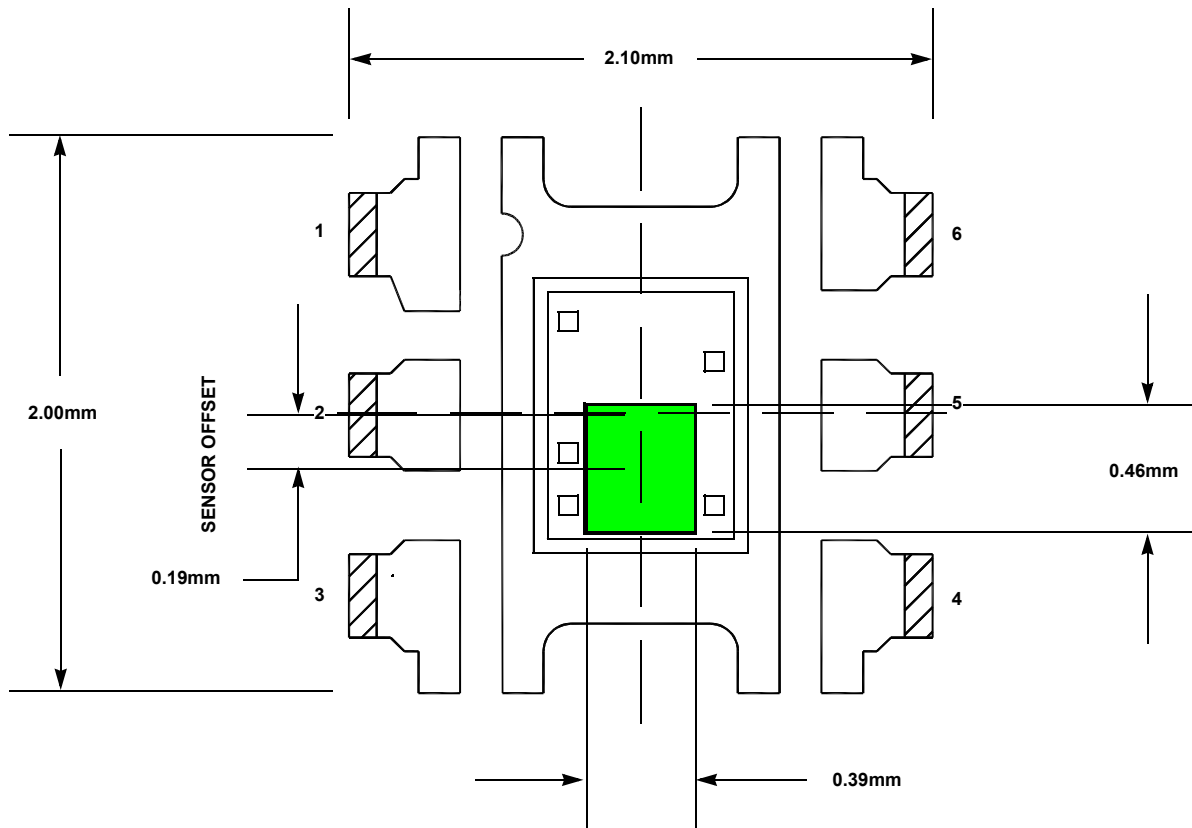

FIGURE 20. 6 LD ODFN SENSOR LOCATION OUTLINE
The green area in Figure 20 shows the optical sensor location outline of ISL29112. Along the pinout direction, the Center Line (CL) of the sensor coincides with that of the packaging. The sensor width in this direction is 0.39mm. Perpendicular to the pinout direction, the CL of the sensor has an 0.19mm offset from the CL of packaging away from Pin 1. The sensor width in this direction is 0.46mm.